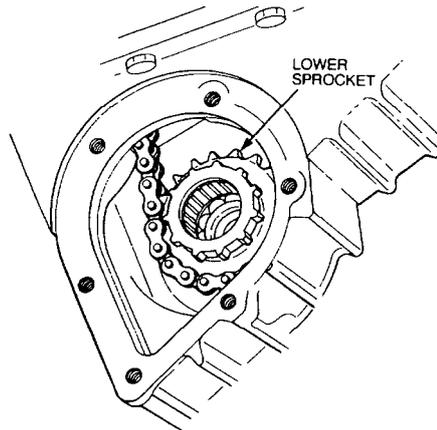

Figure 53 PTO Chain Removal
- l. Lift the lower sprocket up and remove the chain from the sprocket (Figure 53).